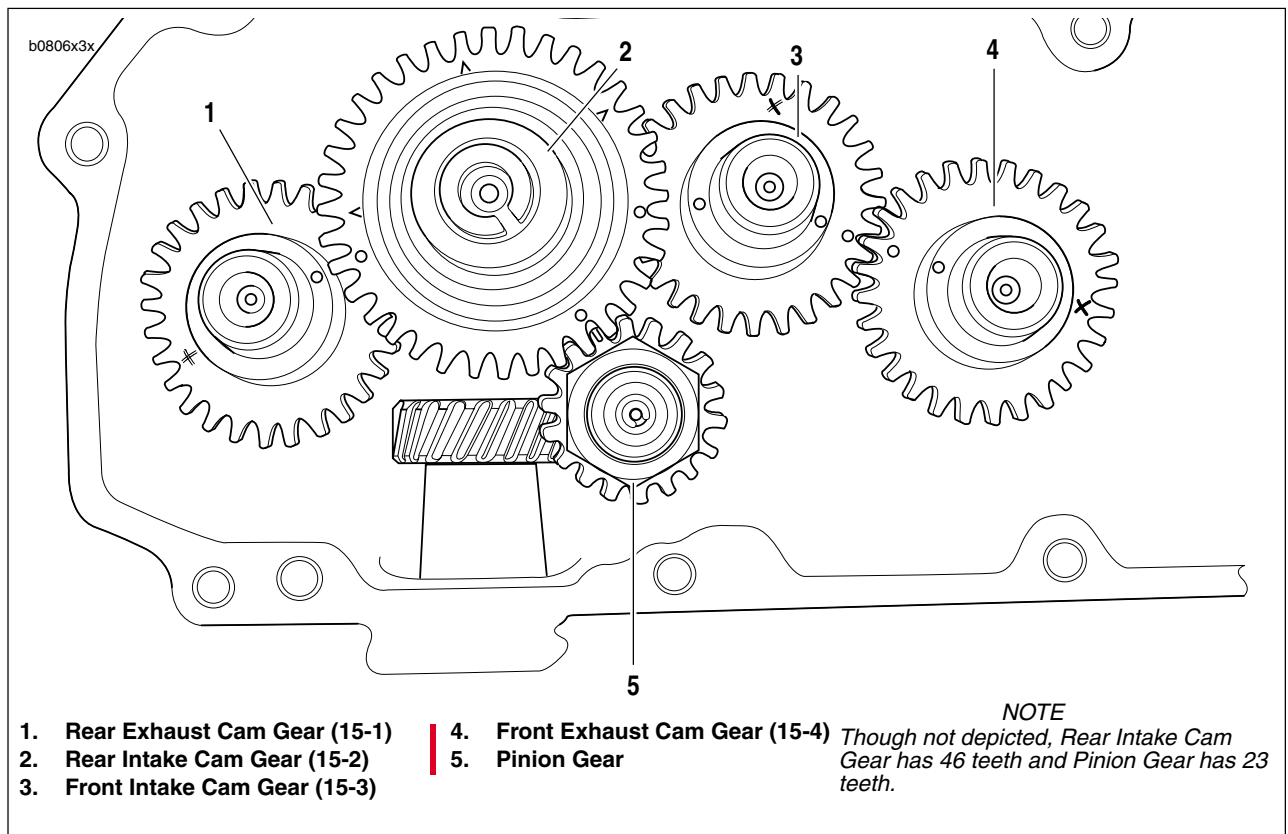

Figure 3-62. Cam and Pinion Gear Timing Mark Indexing
3. Liberally apply engine oil to bushings, shafts, and gears. Install all cam gears into bushings of right crankcase half, properly aligning timing marks of cam gears and pinion gear. See Figure 3-62.